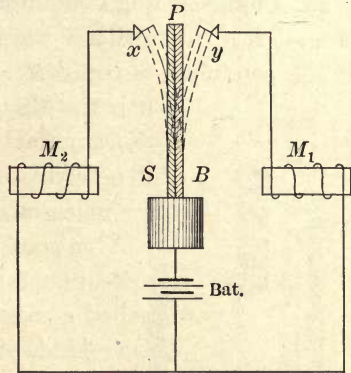

FIGURE 17.—DIAGRAM OF A THERMOSTAT AND SYSTEM.
35. The Thermostat. — The thermostat which regulates the heat of our rooms uses the principle of expansion. It is constructed as shown in Figure 17. The pointer (*P*) is made of a strip of steel (*S*) and a strip of brass (*B*), laid side by side and fastened so that they cannot slip on each other. One end is fixed, and the other end is free. Electric